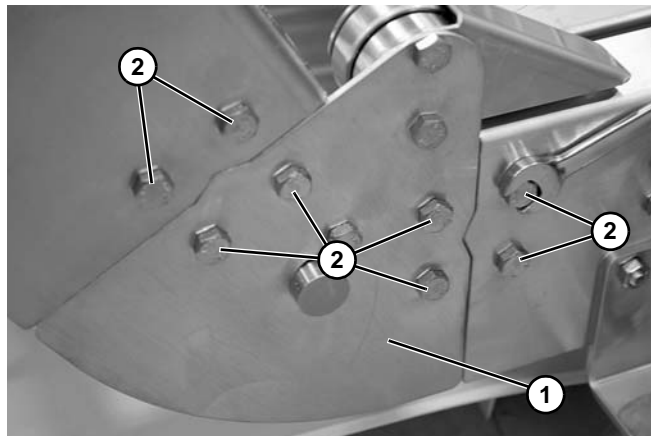
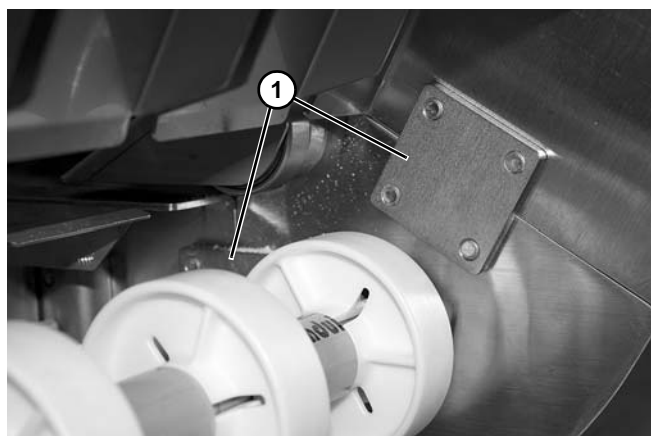

Figure 10
Figure 11
1. Attach lower knuckle (**Figure 10, item 1**) to frame using four screws (**Figure 10, item 2**) and two plates (**Figure 11, item 1**) on each side of the lower knuckle assembly.